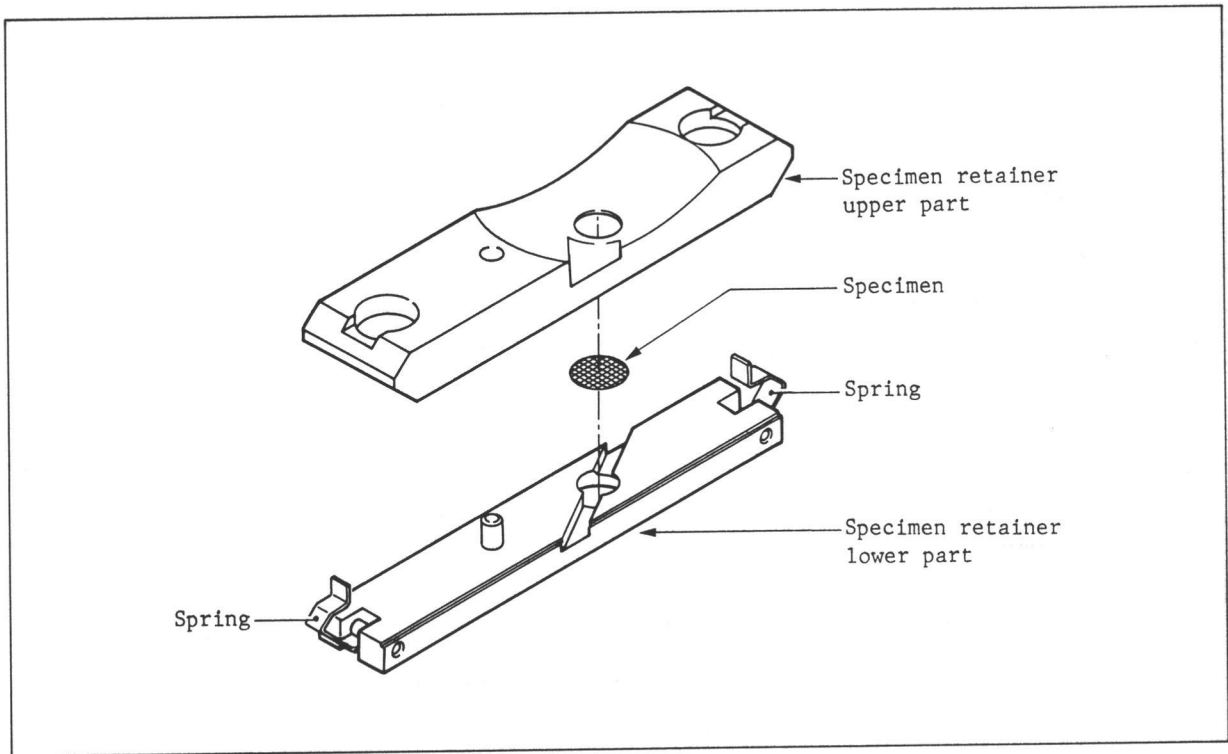

Fig. 12
2. Unfasten the springs from both sides of the specimen retainer to separate the upper and lower parts (Fig. 12).